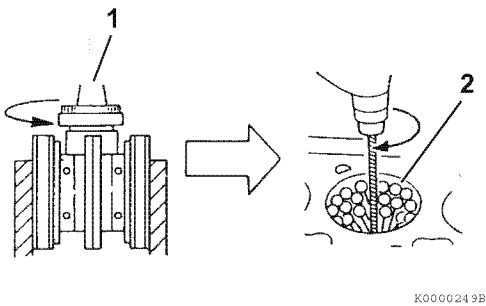

Figure 6-83
2. **Honing** - Minor cylinder imperfections may be corrected by using a rigid cylinder hone (**Figure 6-83, (1)**). Be sure not to exceed the maximum cylinder bore specification.
Deglazing - A used cylinder that did not require boring or honing, should always be deglazed with a ball hone (**Figure 6-83, (2)**) before installing new piston rings. This will properly prepare the cylinder surface to allow new piston rings to seat properly.
- Use a 300-grit hone at 300 - 1200 min⁻¹ (rpm) (Figure 6-83).